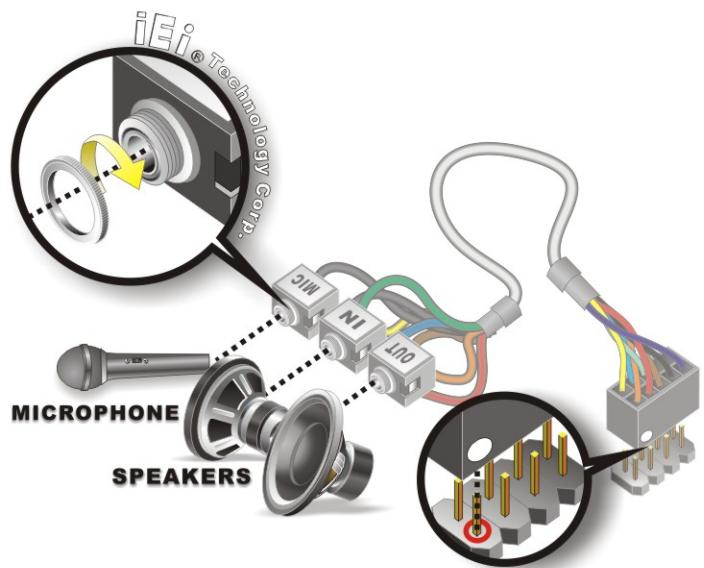

Figure 5-8: Audio Cable Connection
Step 2: Align pin 1. Align pin 1 on the on-board connector with pin 1 on the audio kit connector. Pin 1 on the audio kit connector is indicated with a white dot. See **Figure 5-8**.